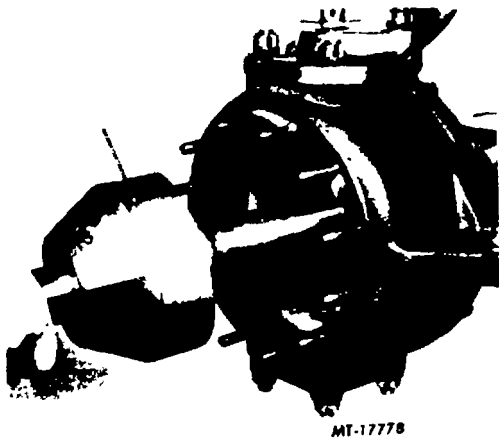

Fig. 2. Removing Axle Shaft and Universal Joint Assembly
2. Remove axle shaft and universal joint assembly from axle housing (Fig. 2).